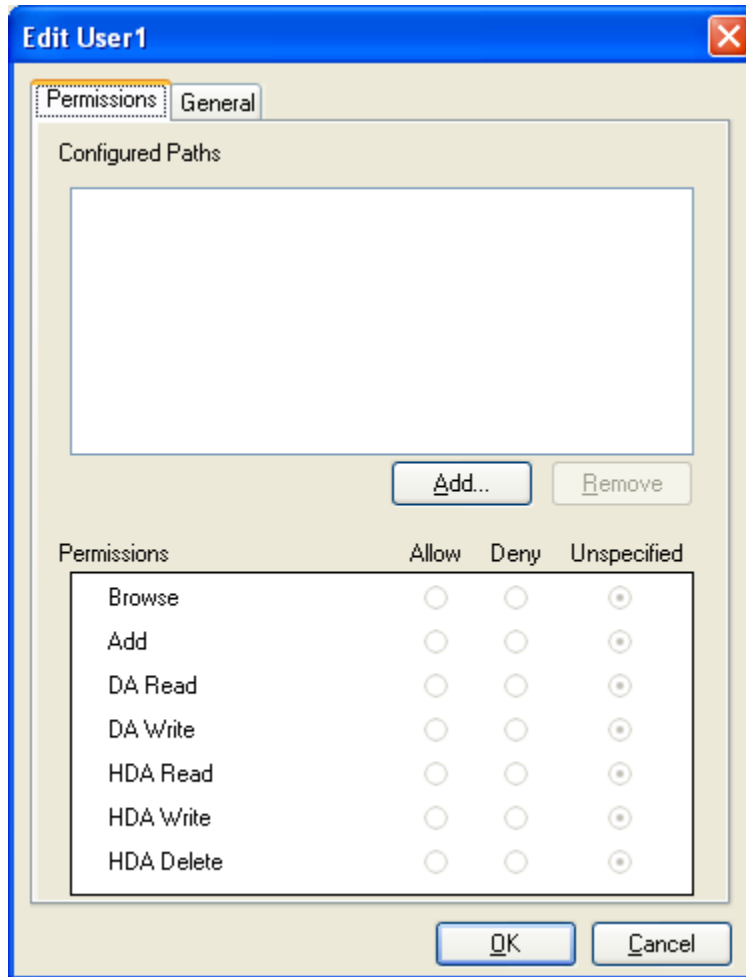

Figure 50 - Edit <Username> Window (Permissions Tab)
6. The **Edit <Username>** window (Figure 50) appears. Follow the instructions in the **Edit User** section for adding permissions.
2. The **Edit <Username>** window (Figure 50) appears.